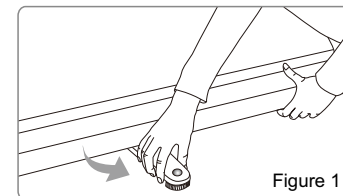

Figure 1
1. Put the screen on the ground, in a proper position, facing the projector. Turn the support foot (5) out until they are perpendicular to the screen casing (1). (Figure 1)